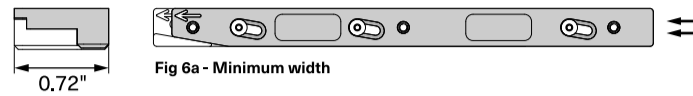
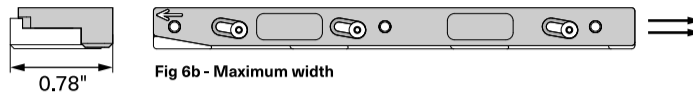

Fig 6a - Minimum width
Fig 6b - Maximum width
Miter Bar adjusts from 0.72" to 0.78" (18.3mm–19.8mm) wide. Push the bottom bar away from the top bar to decrease width [Fig 6a]. Push the bars together to widen [Fig 6b].
6.1 Adjust the bars to the narrowest setting [Fig 6a] and lightly tighten the screws.